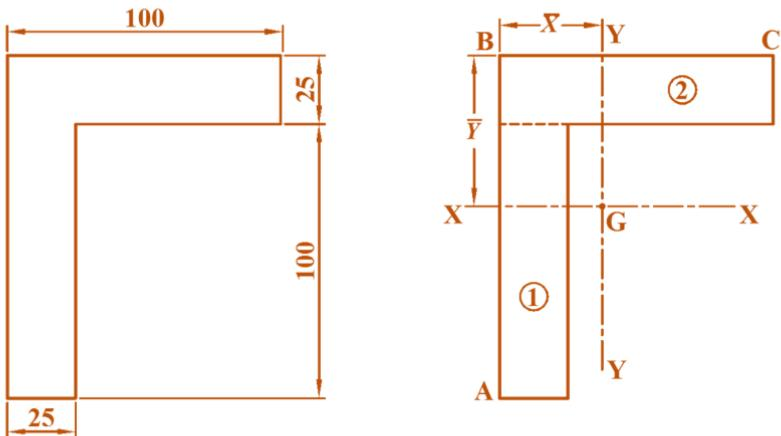

Fig.P5.2 Centroid of 'L' section [Example 5.2]
*Find the centroid of the section shown in the fig.P5.2*